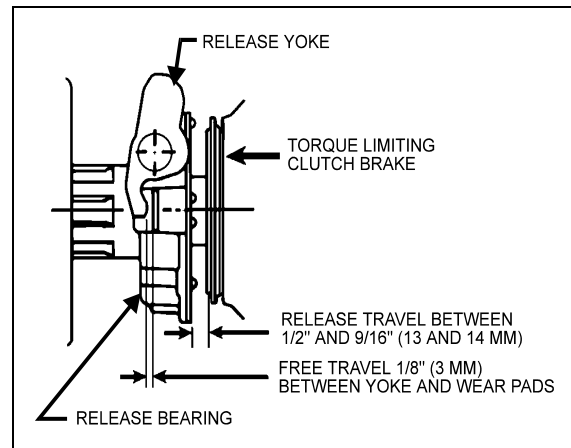

FIGURE 2: CLUTCH ADJUSTMENT 02005
- FIGURE 2: CLUTCH ADJUSTMENT02-3
2. Measure the **release travel** (clearance between release bearing housing and clutch brake) (Fig. 2). The clearance should be between 1/2" and 9/16" (13 and 14 mm).
1. Check **free travel** as shown in figure 2. Clearance should be between 1/16" and 1/8" (1,5 and 3 mm).